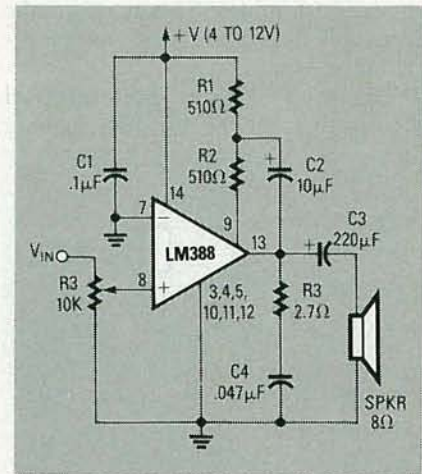
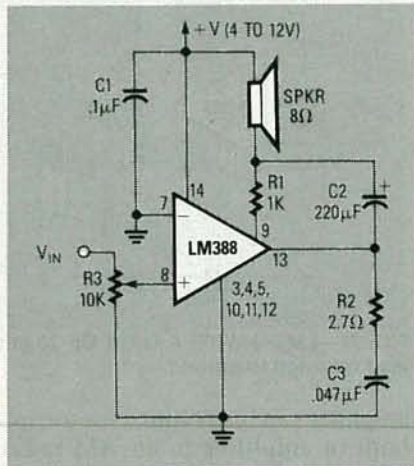

FIG. 17—LM388 WITH A GAIN OF 20 and load returned to ground.
FIG. 18—LM388 WITH A GAIN OF 20 and load returned to +V supply.
Figure 17 shows one way of using the LM388. Here, R1 and R2 are wired in series between the positive supply line and pin 9, to provide collector current to the internal Q7. Note that the R1-R2 junction is bootstrapped from the output of the IC via C2, to raise the AC impedance of R2 (and thus the voltage gain of Q7) to a value far greater than its DC value. The overall voltage gain of the LM388 is determined in the same way as in the LM386, and equals 20 in Fig. 17. Pins 2 and 6 were not used in Fig. 17, but if you wire a 10-μF electrolytic between those two pins (with the positive end connected to pin 6), the gain can be increased to 200.
Figure 18 shows an alternative way of using the LM388 where direct current (DC) is fed to pin 9 via the speaker and R1. Note, however, that the "low" end of the speaker is AC-driven by the output of the amplifier, thereby bootstrapping R1 and providing R1 with a high AC impedance. The circuit therefore gives a performance that is somewhat similar to that of Fig. 17, but does so with a saving of two components.